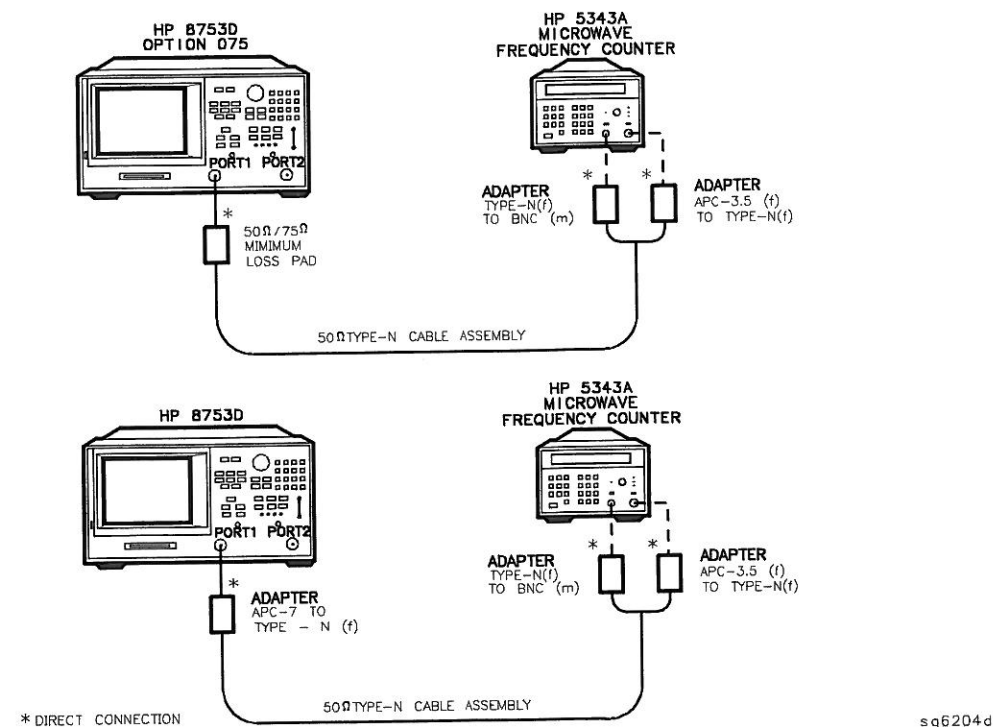

Figure 1-14. Test Port Output Frequency Range and Accuracy Test Setup
1. Connect the equipment as shown in Figure 1-14.